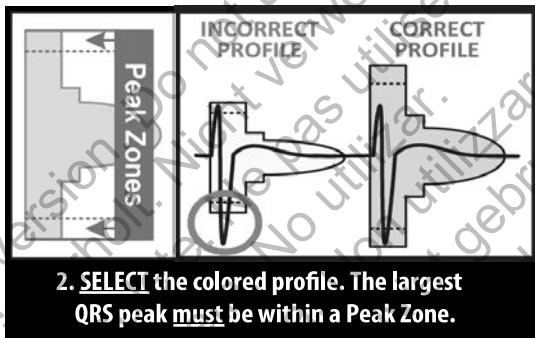

Figure 3. Selecting the Colored Profile
- Select** the colored profile from the Patient Screening Tool that best matches the amplitude of the QRS (Figure 3 Selecting the Colored Profile on page 17). For biphasic or notched signals, the larger peak